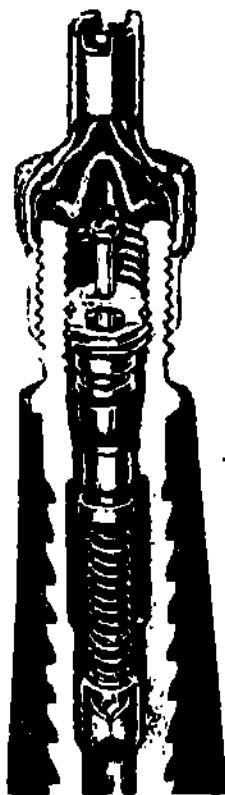

Fig 1-50. Valve core and cap.
d. Valve core. The valve core is located in the stem of the tube (fig 1-50). It allows air to be put into, and prevents air from escaping from the tire. The core is non-reparable and must be replaced if found defective. A defective core will normally cause a slow leak, and a simple check can be performed to discover a defective core. Remove the valve cap and apply a dab of spit to the top of the valve stem. If bubbles appear, the core is leaking; try tightening it. If bubbles still appear, it should be replaced. A valve core not protected with a valve cap could develop a leak because dirt could push the core down.